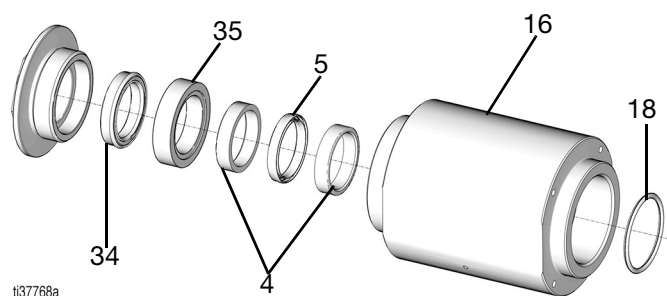

FIG. 18
1. Replace the o-ring face seal (18) with a new one from the seal kit (FIG. 18).
2. Replace the backup throat seal (34) with a new one from the seal kit (FIG. 18),
3. Replace the throat seal (5) and the throat seal back-up rings (4) with new parts from the seal kit (FIG. 18).